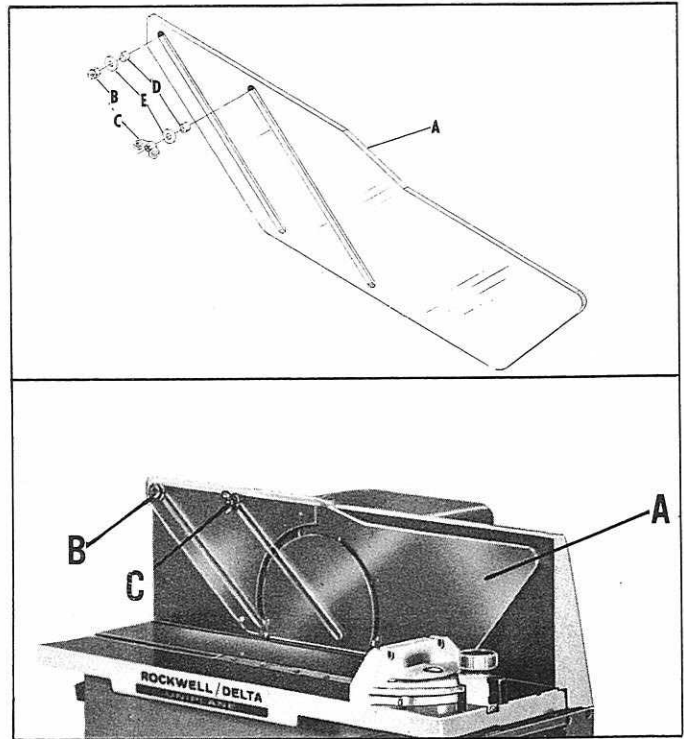

Fig. 2.
The cutterhead guard (A) Fig. 2, rides up onto the material being cut and drops down behind it. The isometric drawing in Fig. 2, illustrates the correct position of the hardware to assemble the guard (A) Fig. 2, to the outfeed fence.
1. Place the two rollers (D) Fig. 2, on the two studs located on the rear fence.
3. Assemble the two washers (E) Fig. 2, on the studs.
4. Assemble the hex nut (B) Fig. 2, on the left stud and the wing nut (C) on the right stud.
5. The sliding action of the guard can be adjusted by tightening or loosening the hex nut (B) Fig. 2. For certain operations or for maintenance it may be desirable to lock the guard up out of the way. This may be done by sliding the guard up to the desired position and locking it in place with the wing nut (C).